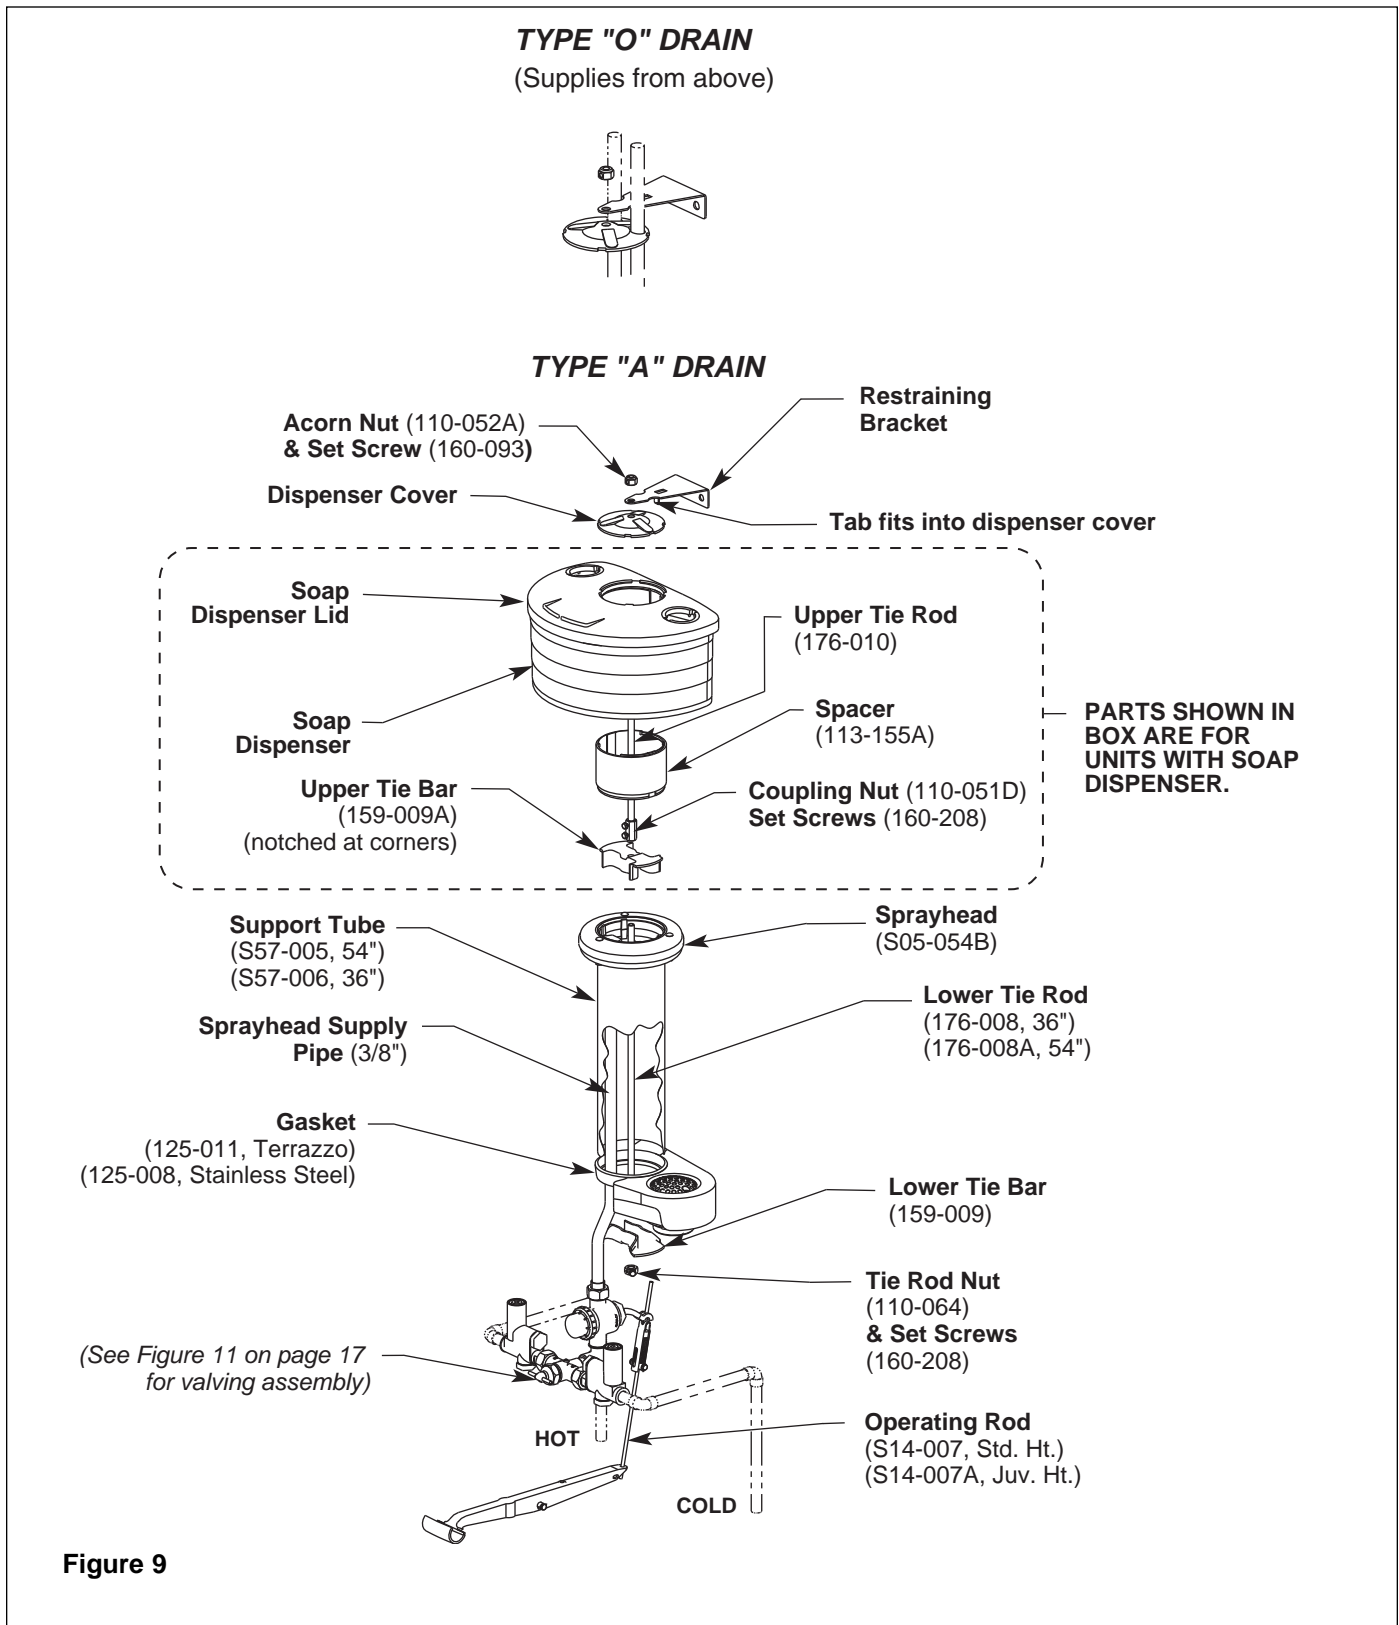

Figure 9
1. Install the hemmed end (not sharp end) of the support tube (welded seam toward the wall) with the gasket into the bowl (see Figure 9 on page 14).
2. Insert the tie rod assembly through the hole in the upper tie bar and secure with the lower tie bar, tie rod nut and setscrew from below (see Figure 9).
3. Install the spacer, soap dispenser, dispenser cover and restraining bracket and secure with the acorn nut and socket setscrew. The tab on the restraining bracket should fit in a notch in the dispenser cover. (See Figure 9).
1. Place the dispenser cover on the sprayhead. Thread the acorn nut onto the lower tie rod, run the tie rod through the dispenser cover and restraining bracket and secure from below with the lower tie bar, tie rod nut and socket setscrew. The tab on the restraining bracket should fit in a notch in the dispenser cover (see Figure 9).